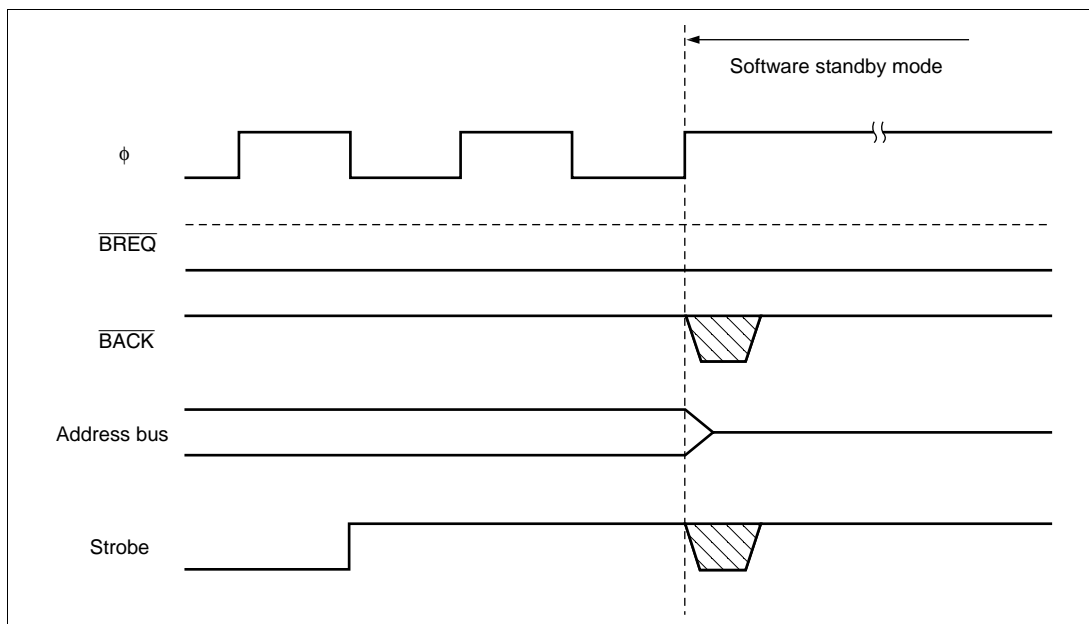

Figure 6.34 Bus-Released State and Software Standby Mode
- In the event of contention with a bus request from an external bus master when a transition is made to software standby mode, the $\overline{\text{BACK}}$ and strobe states may be indeterminate after the transition to software standby mode (see figure 6.34).